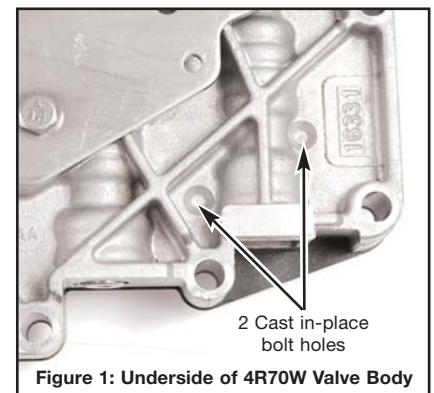

Figure 1: Underside of 4R70W Valve Body
2. Locate the two cast in-place bolt hole locations on underside of valve body (see Figure 1).